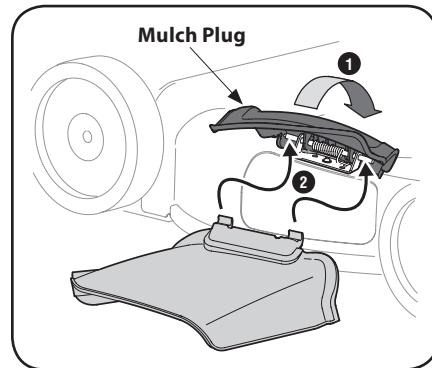

Figure 2-8
- On the side of the mower, lift the mulch plug. See Figure 2-8.